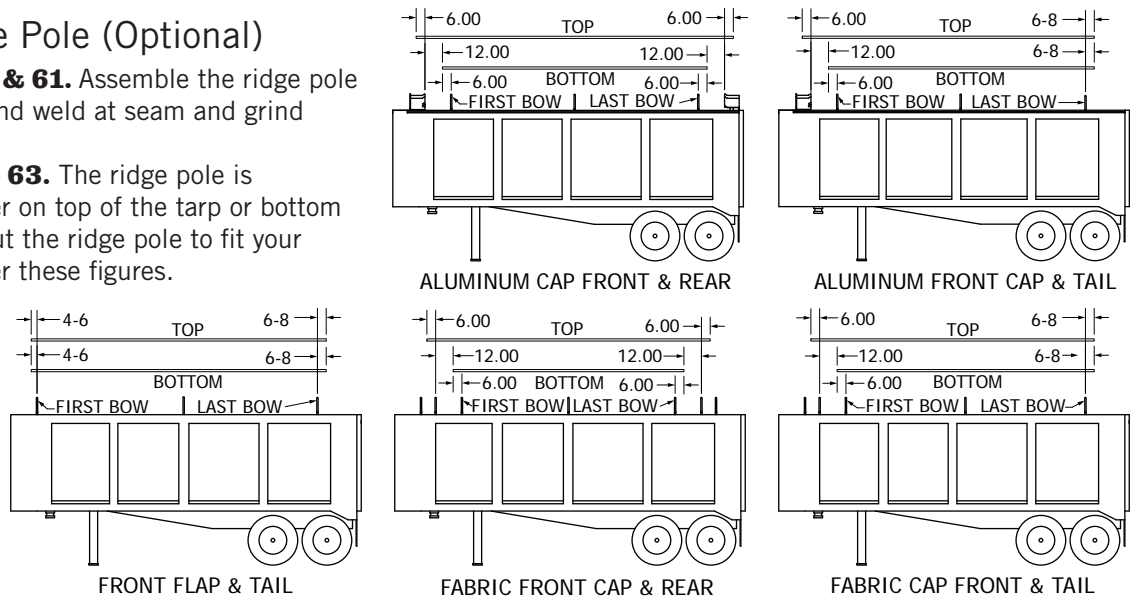

Figure 63
- 2) **See Figure 63.** The ridge pole is installed either on top of the tarp or bottom of the tarp. Cut the ridge pole to fit your installation per these figures.